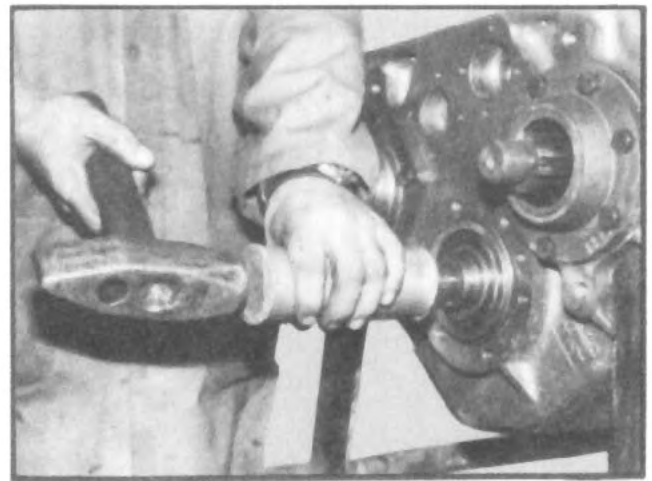

Fig. 3
4. Place a block of wood between the inside face of the underdrive gear and the inside of the housing. Tap the front of the intermediate shaft with a soft hammer, using care not to damage threads (See fig. 3). Align direct drive gear with intermediate shaft rear housing bore and continue to tap the shaft until it is free of the front bearing and underdrive gear bearings.